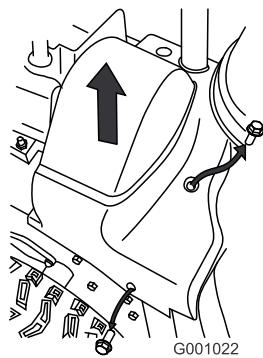

Figure 47
2. Lift up the right side of the belt cover (Figure 47).